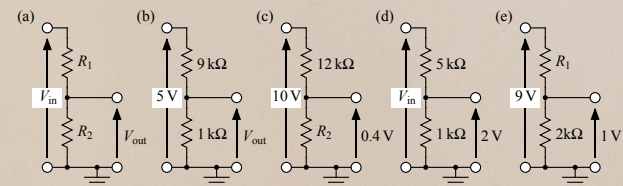

Figure 1: A selection of potential dividers.
- Figure 1(a) shows a widely used circuit called a *potential divider* formed by two resistors. The input and output voltages are given in terms of the resistances by
Use this to find the unknown quantities in figures 1(b)–(e). [0.5 V, 500 Ω , 12 V, 16 k Ω .]